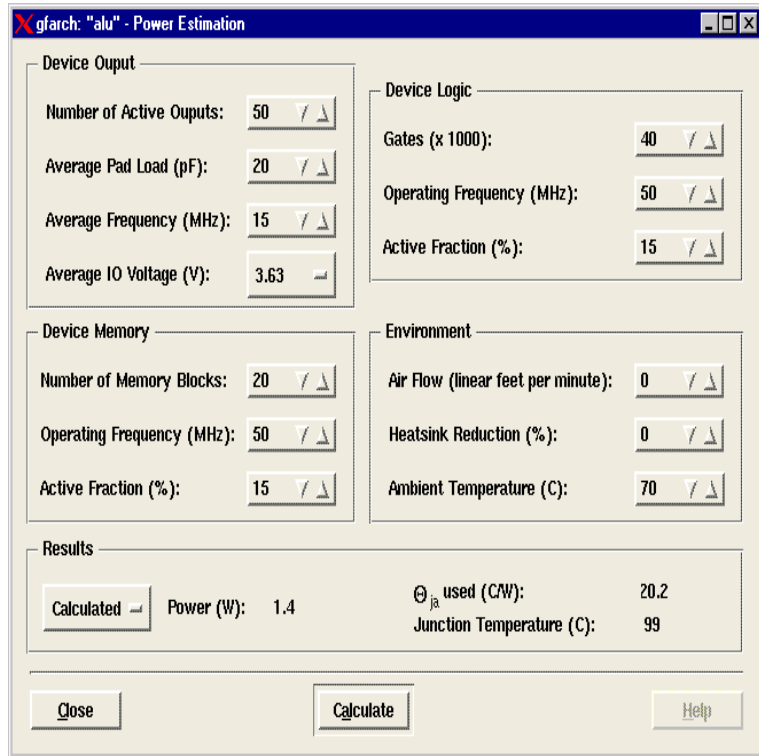

Figure 2-18. Power Estimation Window
1. **Select the Estimate Power command from the Tasks menu.** The Power Estimation window appears as shown in Figure 2-18 on page 38.